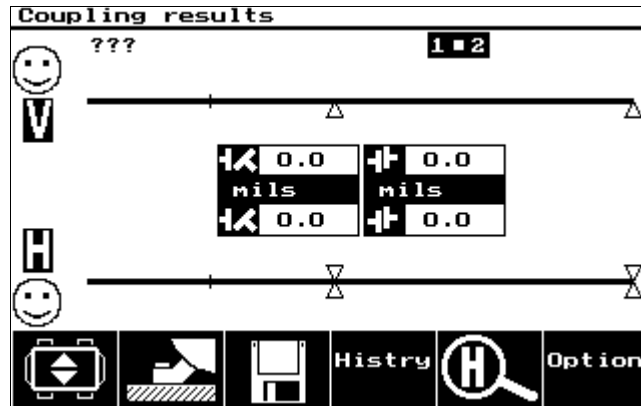

Figure 7
- 10) If not already displayed, press  to see alignment condition results at the coupling. These results will be zero. (See Figure 7.)